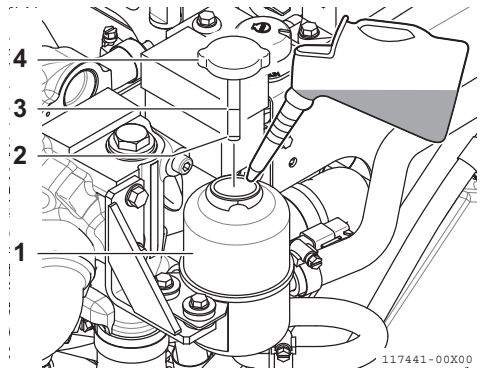

Figure 8
1. Remove the filler cap/dipstick (**Figure 8, (3), (4)**) from the power steering oil service tank (**Figure 8, (1)**) and wipe with a clean cloth.
3. Remove dipstick. The oil level should be between upper (**Figure 8, (3)**) and lower (**Figure 8, (2)**) lines on the dipstick.